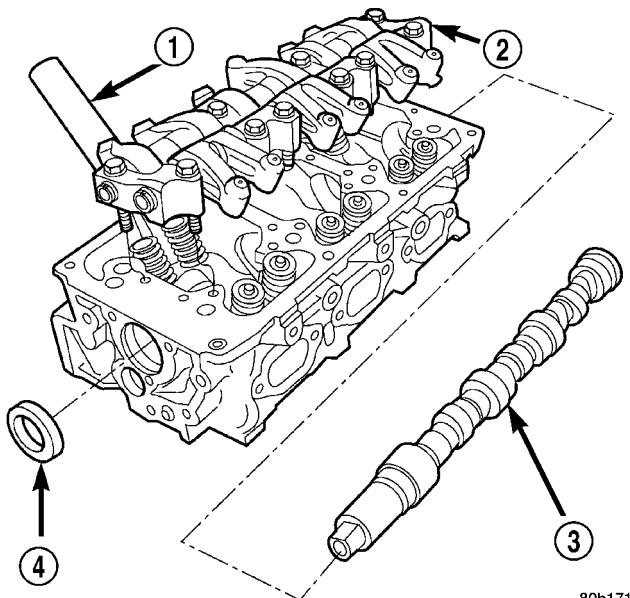

Fig. 20 Cylinder Head, Camshaft, and Rocker Arms
(5) Carefully remove the camshaft from the rear of the cylinder head (Fig. 20).
(1) Lubricate camshaft bearing journals and camshaft lobes with clean engine oil and install camshaft into cylinder head (Fig. 20).